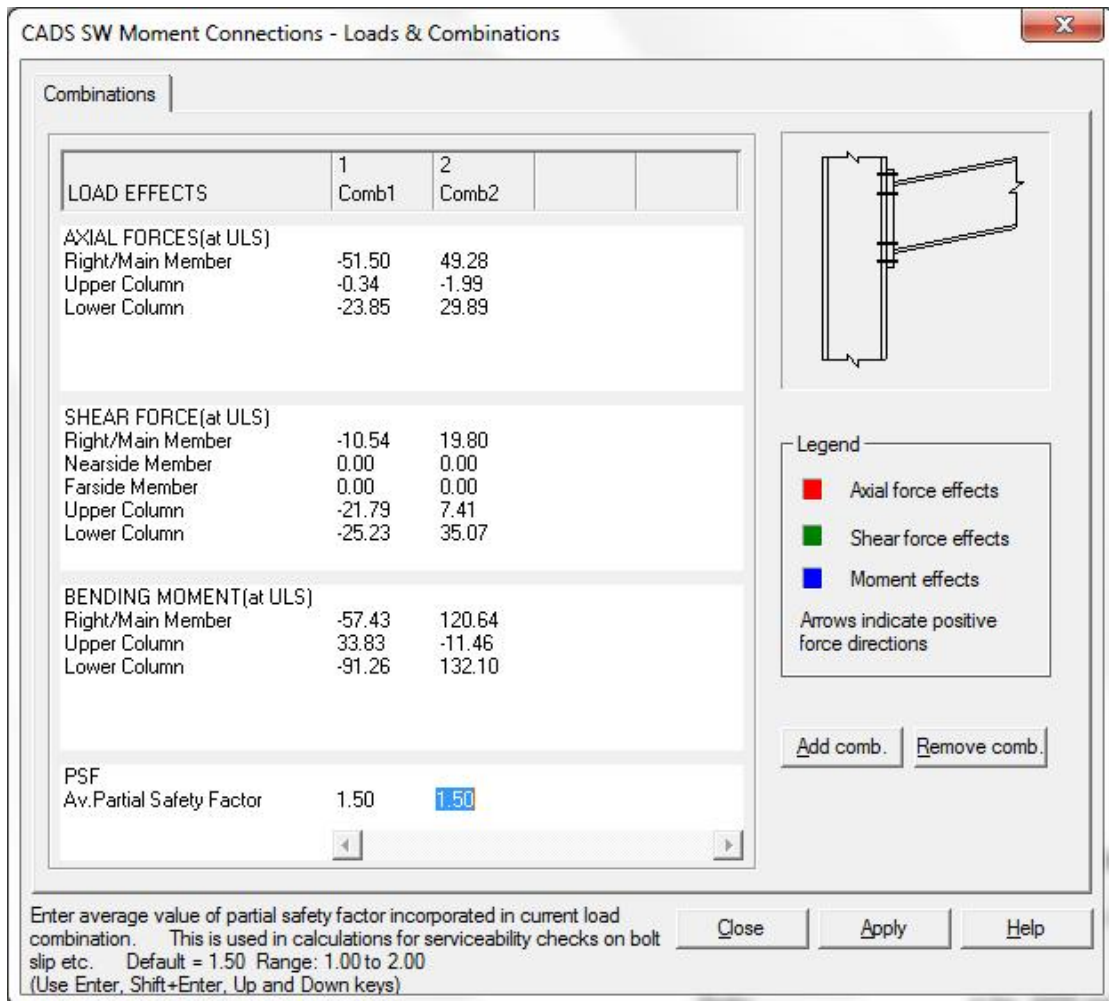

Fig 4.19 Loads and combinations page with force effects entered as per table 4.2.
4. Open the *Loads and combinations* dialog to enter the force effects tabulated above as shown in fig 4.19. Note that if the correct values are entered for the left and right quasi-rafters and upper column members, the software will calculate the the equilibrium values for the lower column which should be the same as in table 4.2.